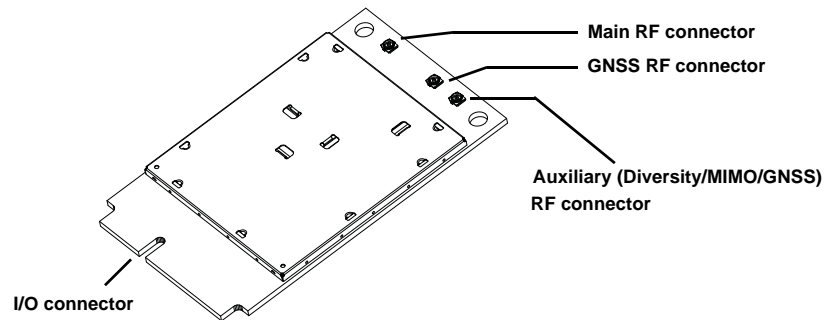

Figure 4-1: Module Connectors
- Use Hirose U.FL connectors (3 mm x 3 mm, low profile; model U.FL #CL331-0471-0-10) to attach antennas to connection points on the module, as shown in Figure 4-1 on page 37.
- Connect to system ground using the two mounting holes at the top of the module (shown in Figure 4-1 on page 37).